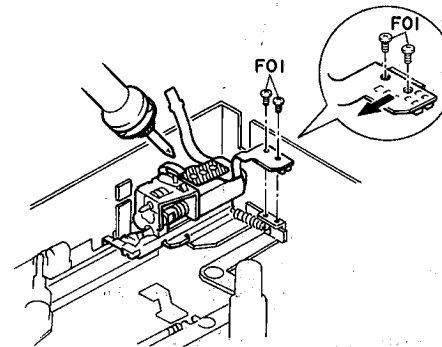

Fig. 2.9.1
Refer to Figs. 2.9.1 to 2.9.3.
- When tightening the screws F01, slide the flexible cable toward the front as shown by the arrow in Fig. 2.9.1.